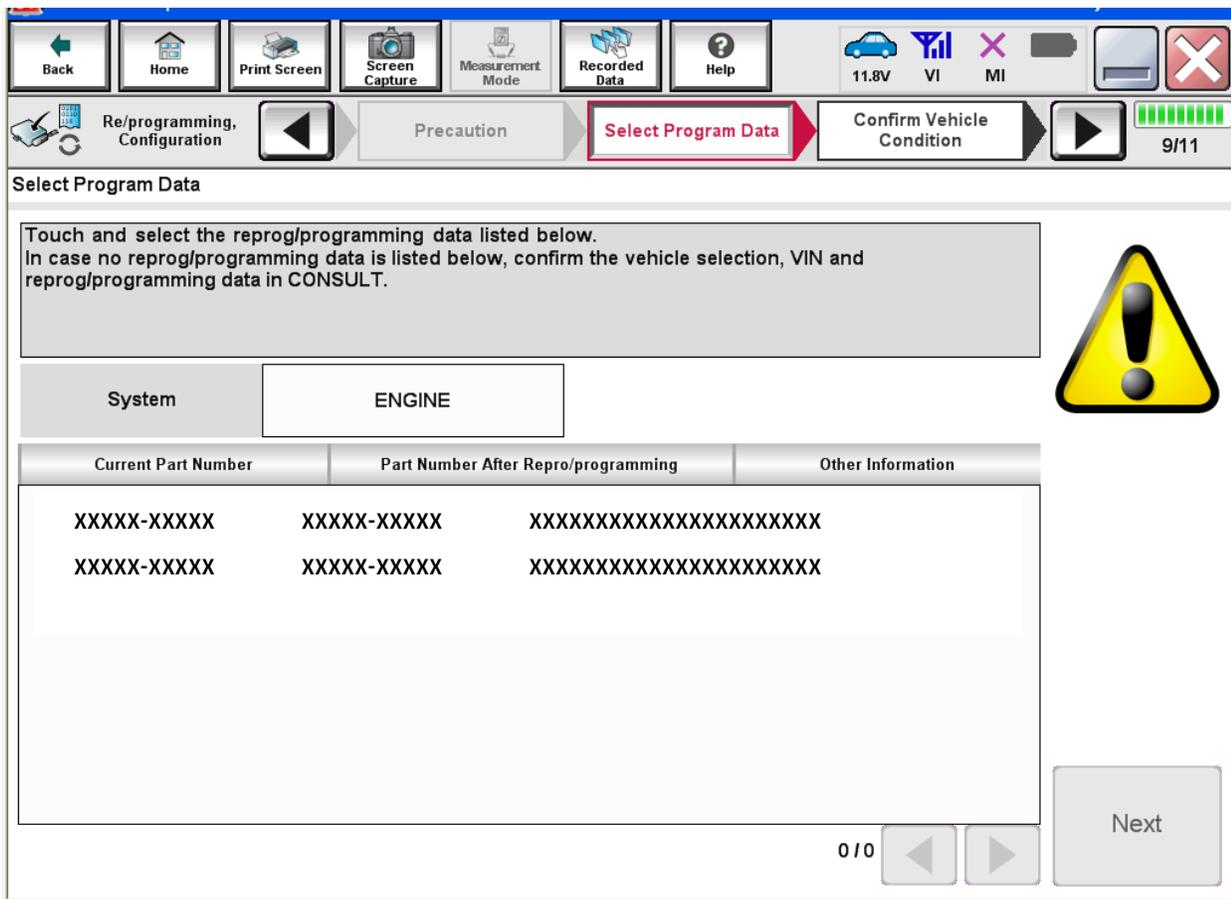

Figure 3
- If more the one new P/N is available, the screen in Figure 3 displays.